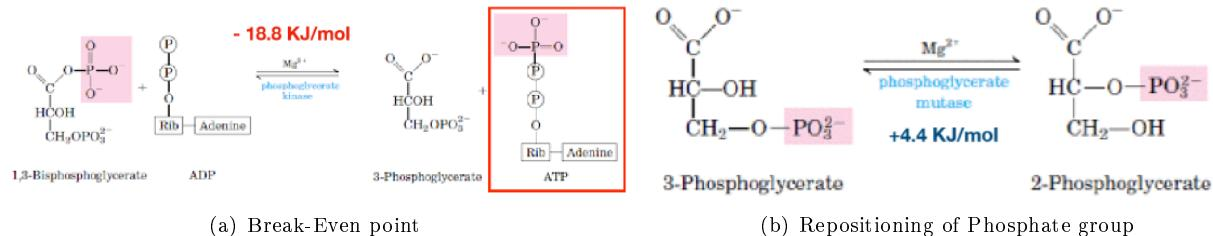

Figure 35: Step7 and Step8
Step7 is the **break-even point**. 1, 3-BPG is used as a phosphate doner to ADP. This reaction is catalyzed by **glycerophosphate kinase** and produces 3-Phosphoglycerate and ATP. (see fig. 35(a))